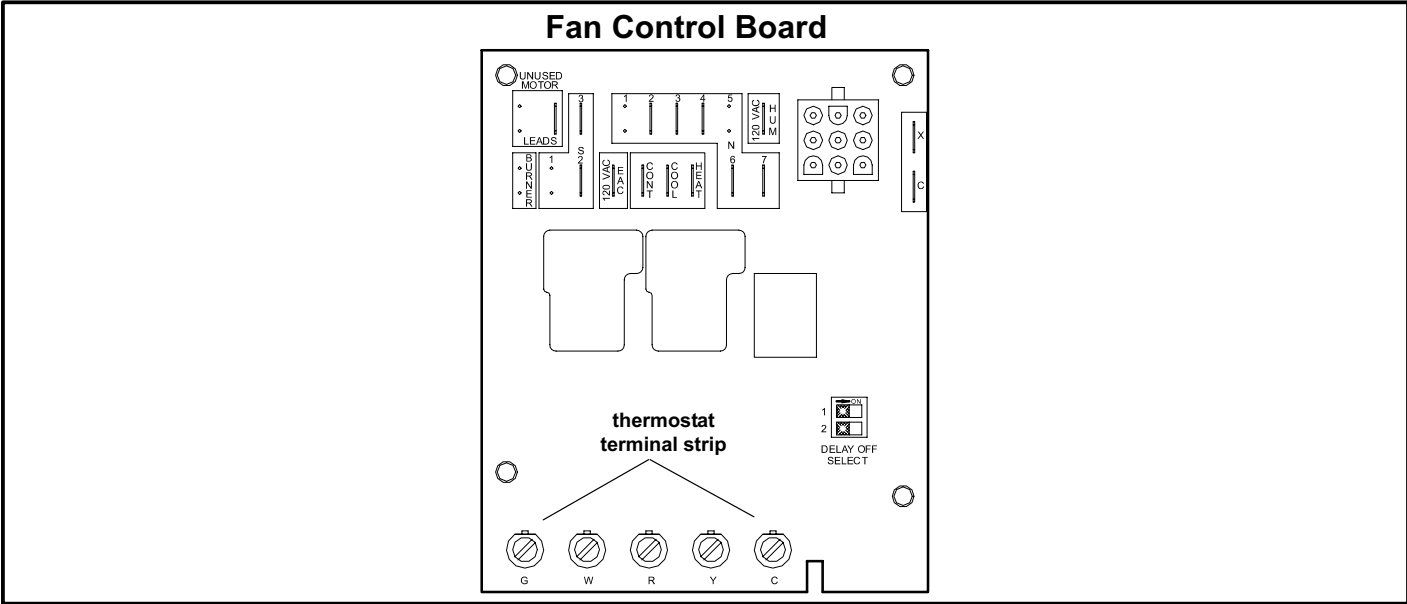

Figure 18
All wiring must conform to the National Electric Code (NEC), or Canadian Electric Code (CEC) and any local codes. Refer to figure 18 for terminal designations on blower control.
*NOTE - An equipment ground screw is provided. Refer to unit wiring diagram and figure 18 for OHR23 series units. Ground unit using a suitable ground wire.*